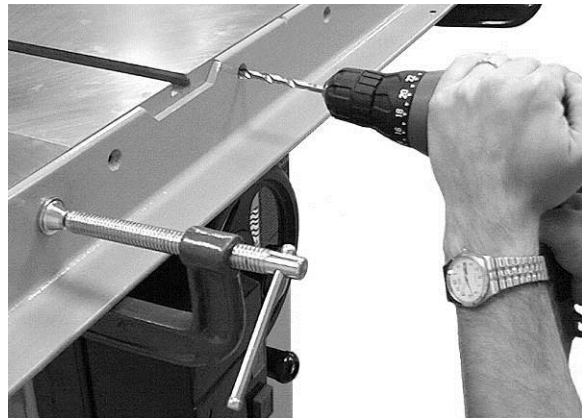

Figure 25
6. When the *front rail* has been correctly positioned, and your mark still lined up with the straight edge, drill 1/4" holes into the lip of the table saw top, using the holes in the *front rail* as a guide (Figure 25).